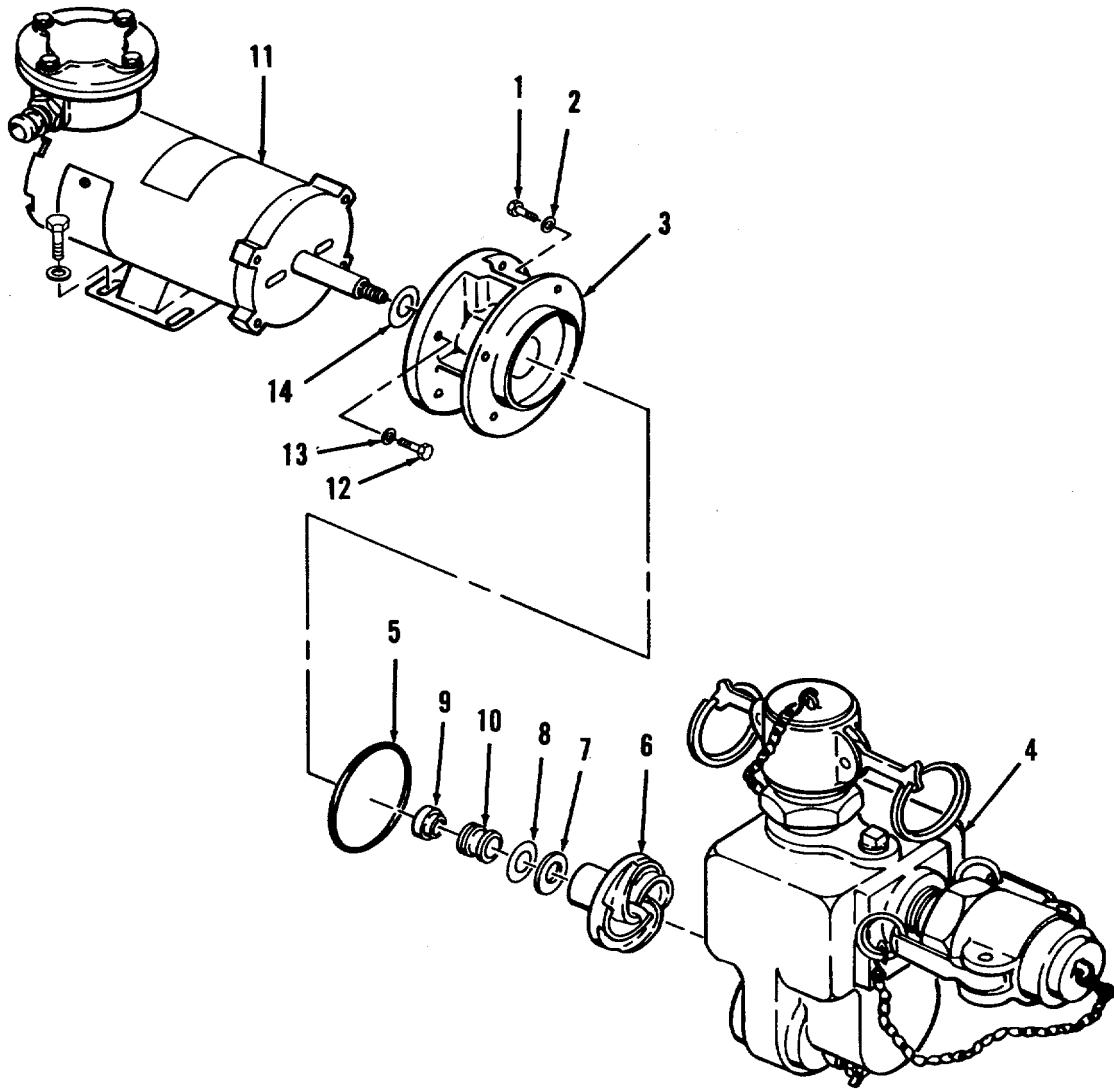

Figure 5-1. Pump Assembly Replacement.
**a. Removal.** (Refer to Figure 5-1).
- (1) Remove four bolts (1) and four lock washers (2) from pump side housing (3).
- (2) Remove pump housing (4) from pump side housing (3).
- (3) Remove preformed packing (5) from pump side housing (3).
- (1) Install drain cock (9) onto pump (4).
- (2) Install pipe nipple (8), coupling half (7), gasket (6), and dust plug (5) onto pump (4).
- (3) Install coupling half (3), gasket (2), and dust cap (1) onto pump (4).
**g. Replacement.** (Refer to Figure 5-1).
- (1) Install slinger (14) onto shaft of motor (11).